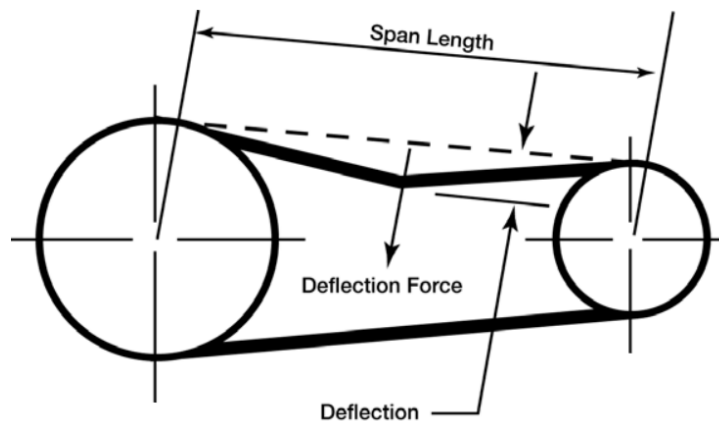

Figure 4.2: Reverse parallel belt tensioning diagram
- i. To measure the tension of the belt either use a sonic tension meter or measure the deflection force required to deflect the belt in the center of its span (Fig 4.2) by the distance called out in the "deflection" column in Table 4.2.